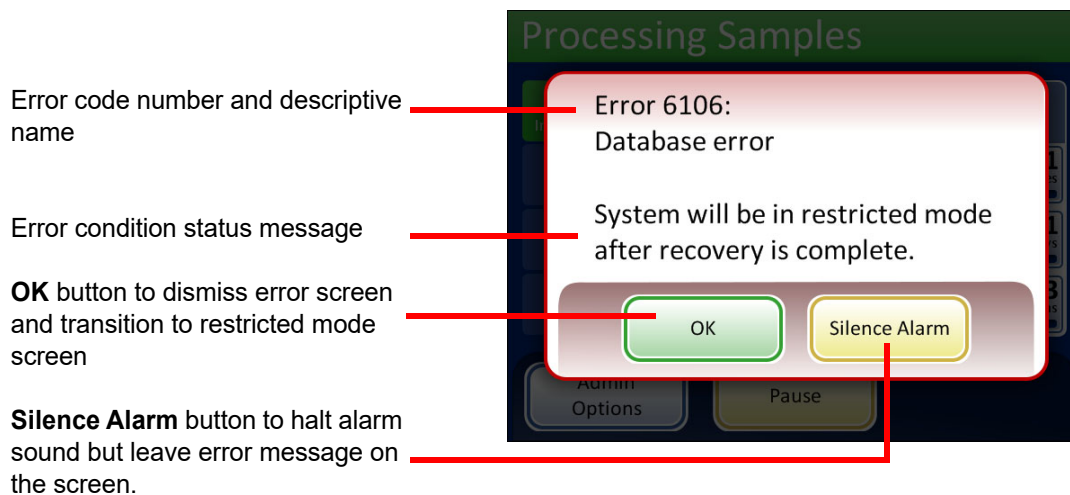

Figure 9-1 System Detected an Error
- Display the error message and sound the audible alarm, if enabled (see Figure 9-1.) The system attempts to recover (a minute or less).